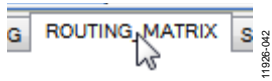

Figure 40. Selecting the ROUTING_MATRIX Tab
- 3. Click the **ROUTING_MATRIX** tab (see Figure 40) to allow configuring the routing matrix.